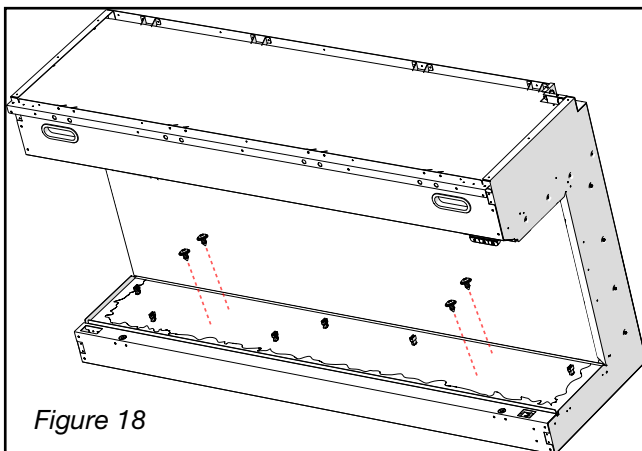

Figure 18
7. Remove the screws that secure the media bed. (Figure 18)